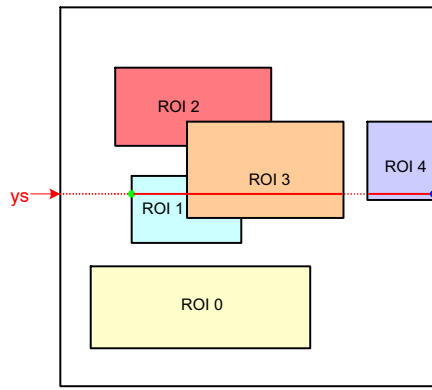

Figure 28. Scanning the Image Array with Five Windows
Figure 28 illustrates a practical example of a configuration with five windows. The current position of the read pointer (ys) is indicated by a red line crossing the image array. For this position of the read pointer, three windows need to be read out. The initial start position for the x-kernel pointer is the x-start configuration of ROI1. Kernels are scanned up to the ROI3 x-end position. From there, the x-pointer jumps to the ROI4 x-end position, which is ROI4 in this illustration. When reaching ROI4's x-end position, the read pointer is incremented to the next line and xs is reinitialized to the starting position of ROI1.
- The read pointer is not necessarily incremented by one, but depending on the configuration, it can jump in y-direction. In Figure 28, this is the case when reaching the end of ROI0 where the read pointer jumps to the y-start position of ROI1.